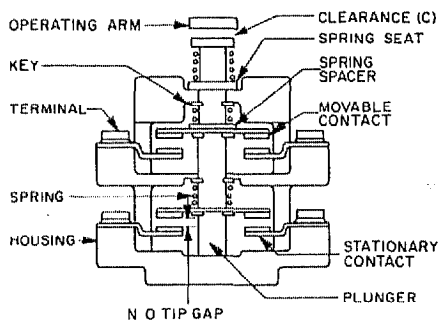

Fig. 5. Contact block with normally open contacts in un-operated position
Because of the circuit rearrangement feature, a spring spacer is supplied with all other two-circuit contact blocks, as shown in Fig. 5 and 6.
The interlock should be positioned on its bracket so that with the relay in its energized position, the interlock plunger, Fig. 5, should not bottom, and with the contactor in its de-energized position, there
should be some clearance (C) between the interlock plunger and the interlock operating arm, Fig. 5.